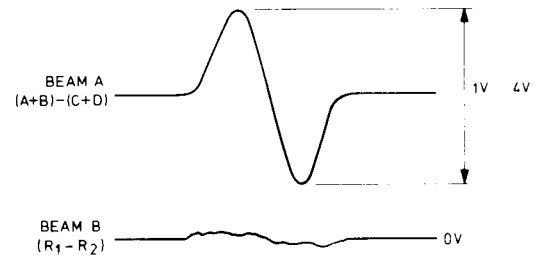

Fig. 7
- Set the frequency of the signal generator to approx. 30 Hz and adjust the amplitude of the generator signal and the power supply so that the objective starts to oscillate freely and an S-curve is displayed on the oscilloscope screen (beam A). The  $(R_1 - R_2)$  signal on beam B should be minimum ( $\leq 100$  mVpp). The amplitudes and waveform are shown in Fig. 7.